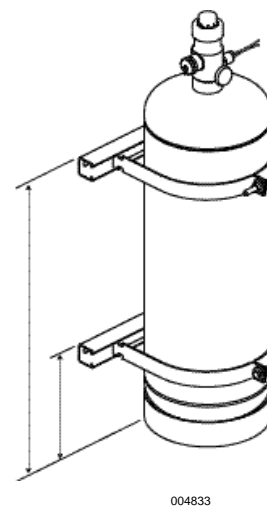

Figure 28 - Tank Strap Location
3. Insert the tank straps at top and bottom and secure with the bolts provided (see Figure 28).